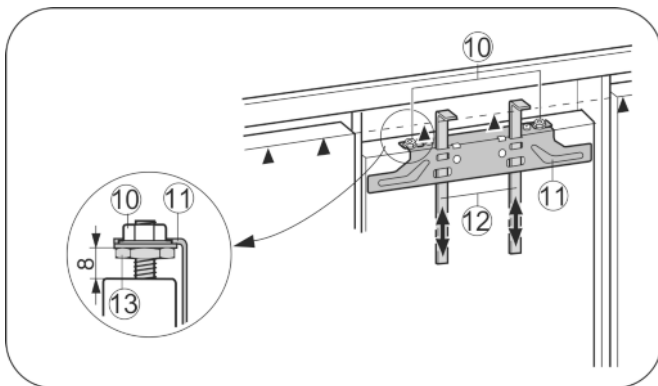

Fig. 20
- ▶ Raise the fitting aids Fig. 20 (12) to unit door height. Bottom stop edge of ▲the fitting aid = top edge of the unit door to be fitted.
- ▶ Unscrew the crosspiece Fig. 20 (11) by undoing the locknuts Fig. 20 (10).